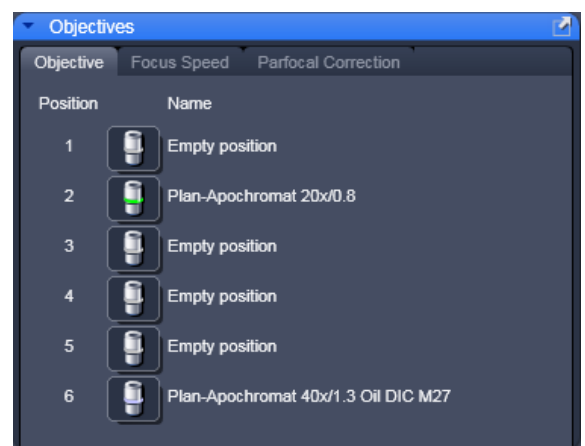

Fig. 149 Objectives tool
- A list of available objectives is displayed with position and name (Fig. 149).